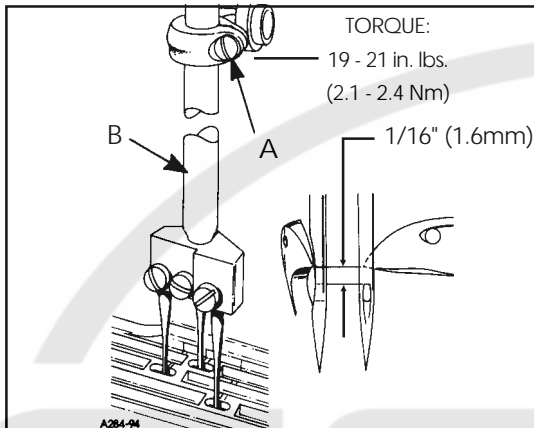

FIG. 9
The height of the needle bar is correct when the top of the needle eye is 1/16" (1.6mm) below the underside of the looper, with the looper point even with the right side of the needle. To make adjustment loosen screw (A, Fig. 9) and move needle bar (B) as required to attain dimension.